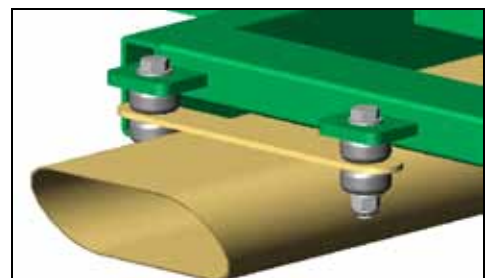

Figure 46
- c. Install exhaust end of mufflers to the muffler mount tabs at rear of Body Frame. Install hardware as follows: Install 5/16"-18 x 2" L Hex Head Bolts and Flat Washers from top to bottom, 1 Rubber Spacer at top and bottom of muffler bracket, one Dome Washer under Rubber Spacer and one 5/16"-18 NyLoc nut. Figure 46